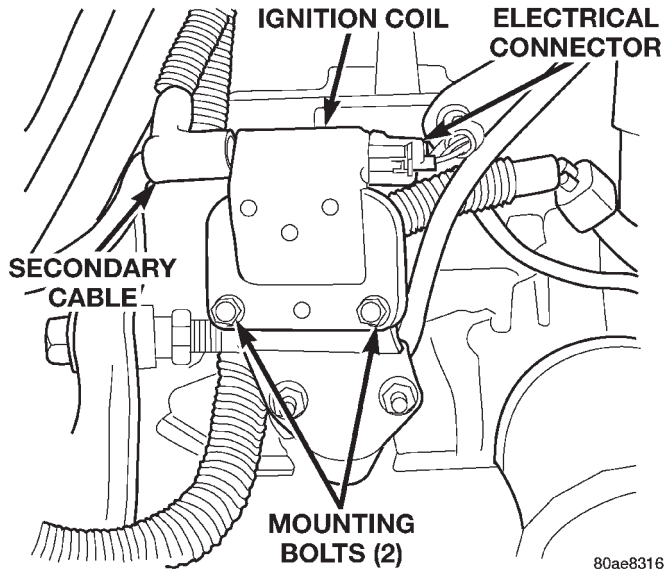
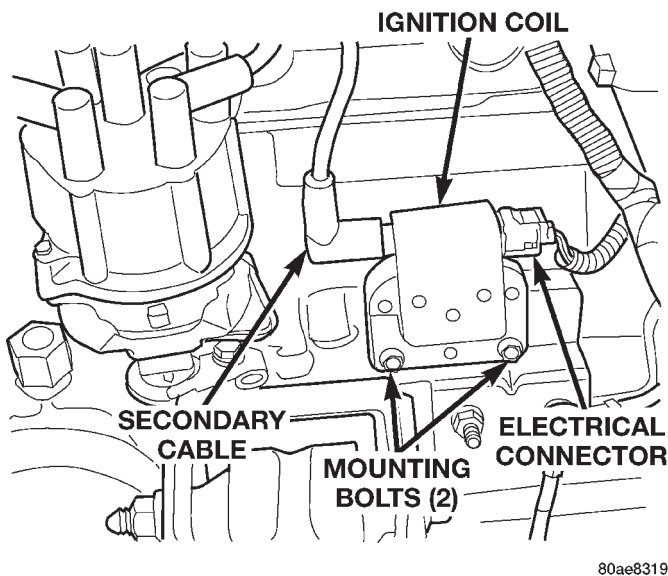

Fig. 19 Ignition Coil—2.5L Engine
Fig. 20 Ignition Coil—4.0L Engine
(4) Inspect ignition coil connections. Verify coil secondary cable is firmly connected to coil (Fig. 19) or (Fig. 20).
(5) Verify distributor cap is correctly attached to distributor. Be sure spark plug cables are firmly connected to distributor cap and spark plugs are in their correct firing order. Be sure coil cable is firmly connected to distributor cap and coil. Be sure camshaft